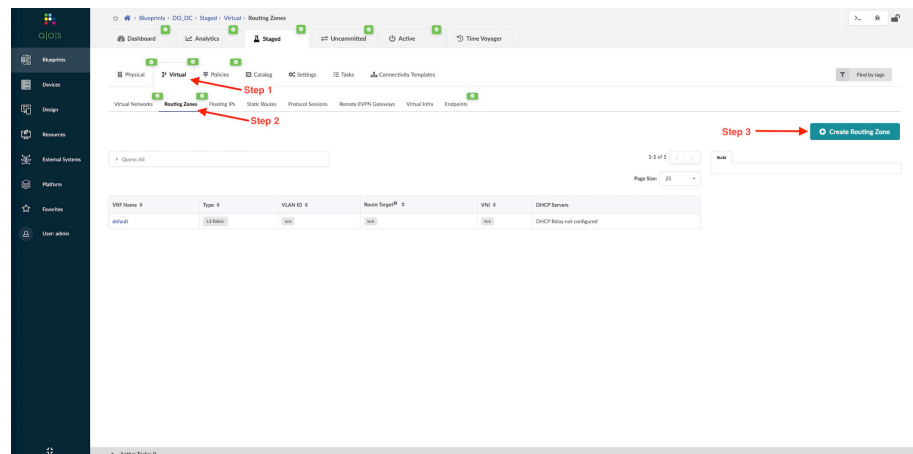

Figure 5.2 Adding A Routing Zone via Apstra
Step 1: Within the desired blueprint select Staged > Virtual. See Figure 5.2.